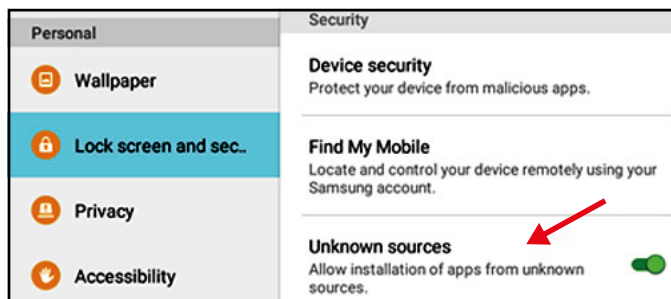

Figure 55: Security Settings
2. In the tablet settings, enable the security option to allow the installation of software from “Unknown sources” for this installation only (see Figure 55 below).